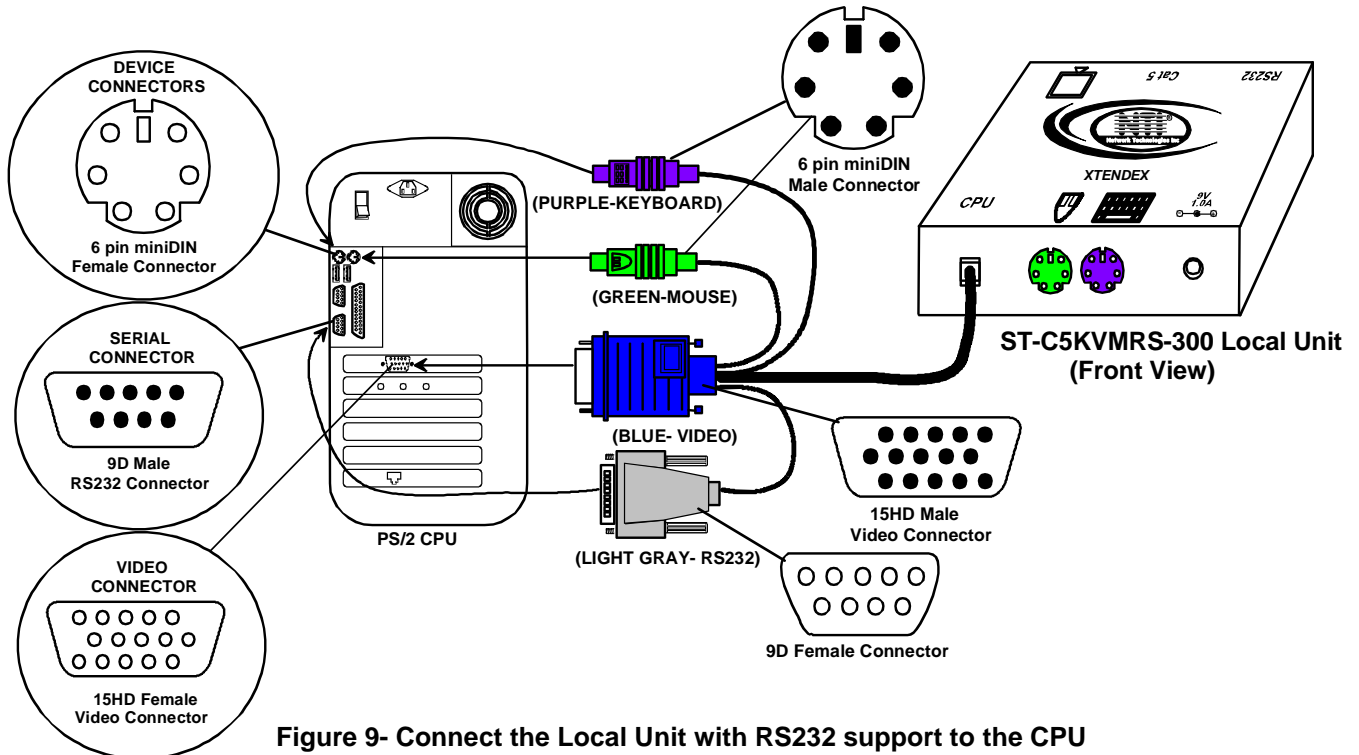

Figure 9- Connect the Local Unit with RS232 support to the CPU
- e) If the Local Unit has RS232 support, connect the light gray 9D cable end to the RS232 port on the back of the CPU. (See Figure 9)